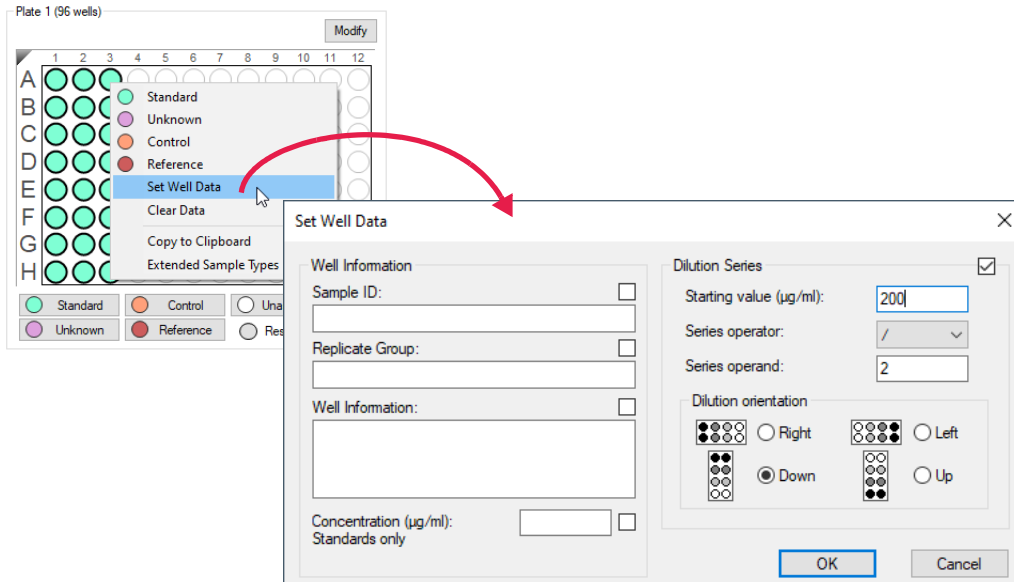

Figure 5-5: Sample Plate Map—Setting a Dilution Series
1. In the **Sample Plate Map**, select the standard wells, right-click and select **Set Well Data**. The **Set Well Data** dialog box appears (see Figure 5-5).